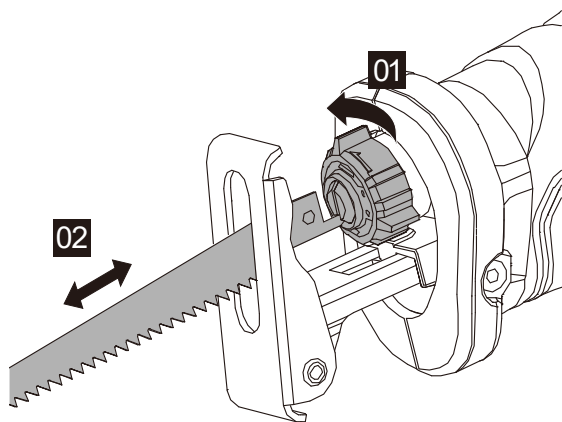

Figure 1
1. TOOL-FREE BLADE FITTING (SEE FIG. 1)